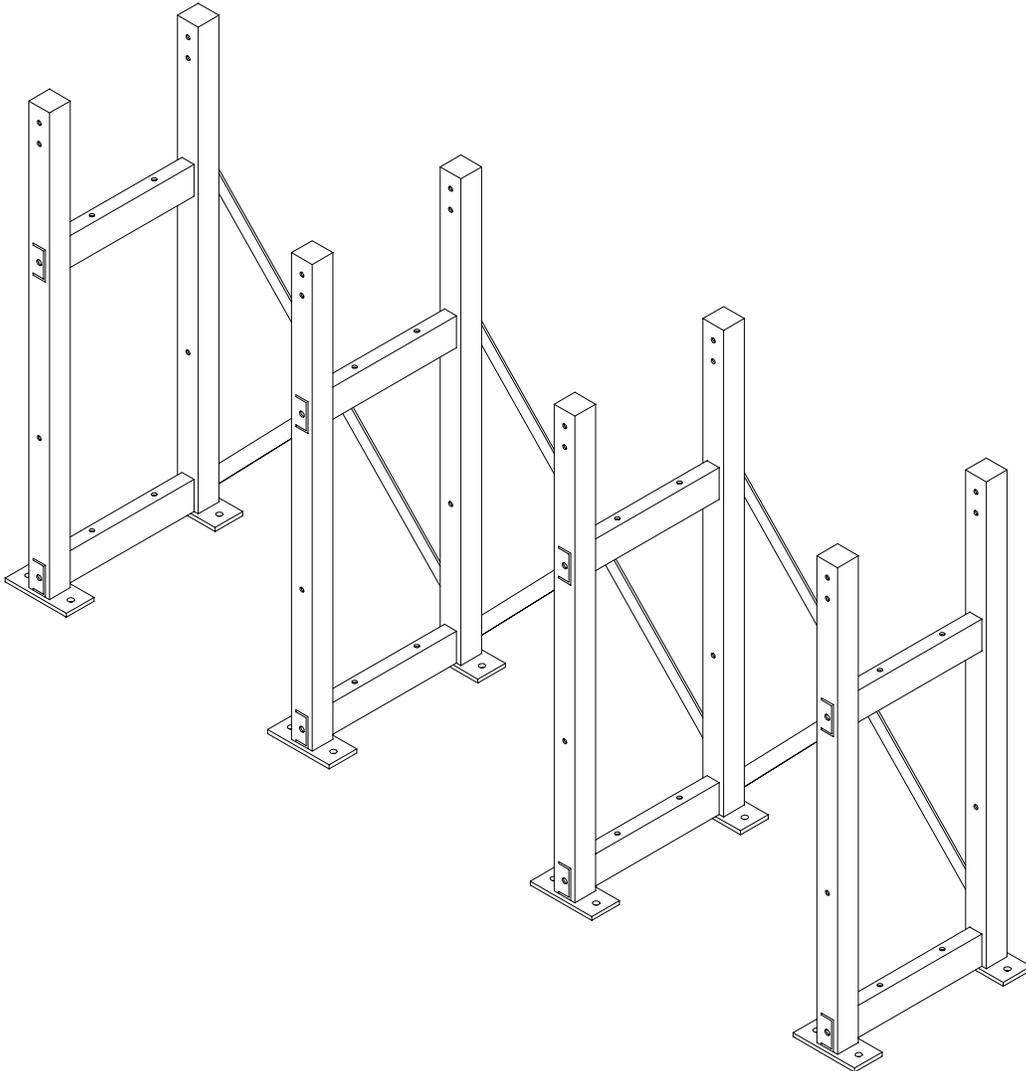

Figure 7.2b
- For 2 Tier racks, install rear set of cross braces before installing cells on rack. See Figure 7.2b